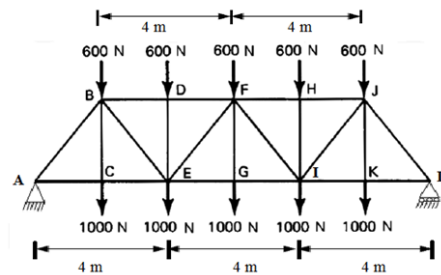

Figure 4
- (b) Determine the member forces and their nature for the plane truss shown in Figure 4 using method of joints. [7M]